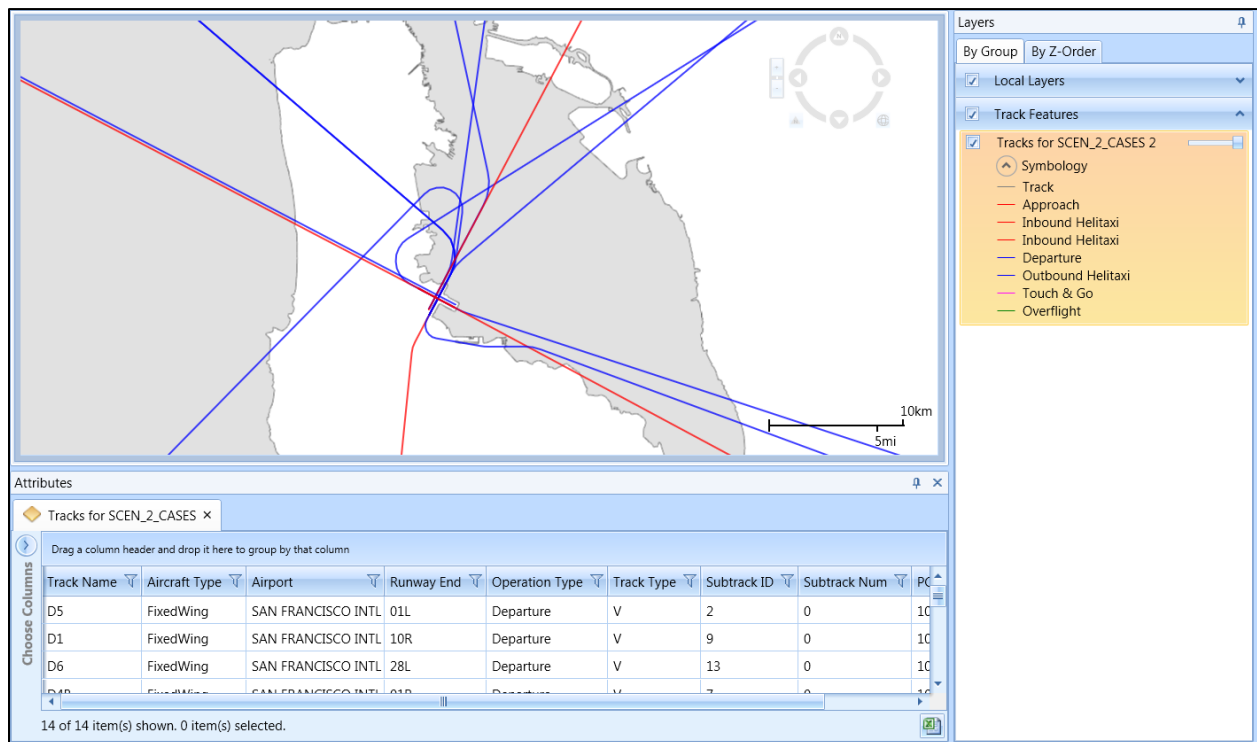

Figure 5-37 Sample Tracks Layer with Attributes
3. The Tracks Layer is displayed on the map (Figure 5-37) and in the *Layers* manager.
The following attributes are available for the Tracks Layer: track name, aircraft type, airport, runway end, operation type, track type, subtrack ID, subtrack number, and percent dispersion (Figure 5-37). See Appendix B.3 for descriptions of the attributes.